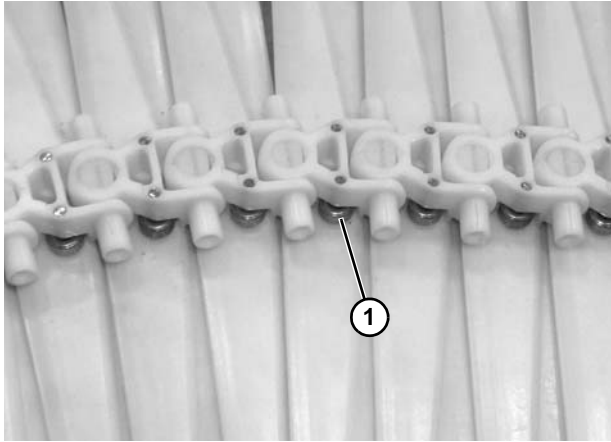

Figure 10
The stainless steel bearings (Figure 10, item 1) are positioned on the inside radius of the curve.